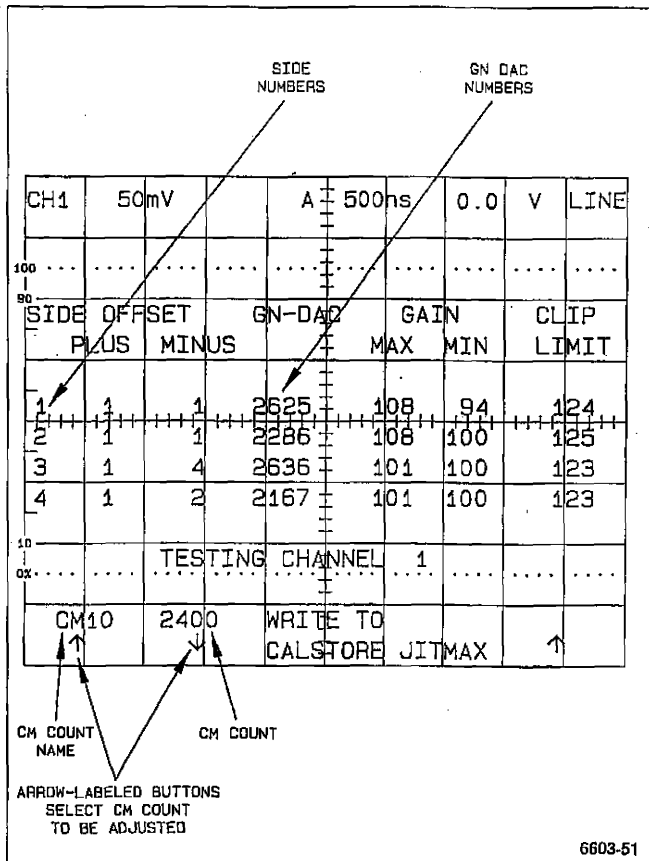

Figure 5-5. CCD counts display and CM adjustment menu.
2. **Display menu for adjusting CM counts:** Push MENU OFF/EXTENDED FUNCTIONS twice; then push the SPECIAL menu button, and, when the menu changes, push FORCE DAC. The menu for adjusting the CM counts should now be at the bottom of the screen, with the various CCD counts for the four CH 1 CCD sides and the message "TESTING CHANNEL 1" displayed above that menu. (See Figure 5-5.)